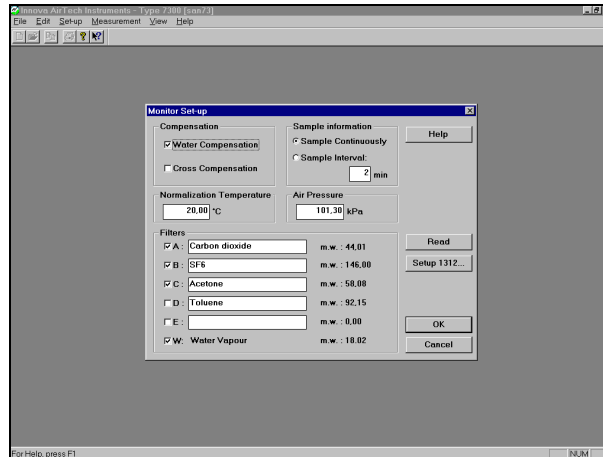

Fig. 3.1 The Monitor Set-up dialogue
1. Pull down the **Set-up** menu and click on **Monitor**. The dialogue in Fig.3.1 is displayed.